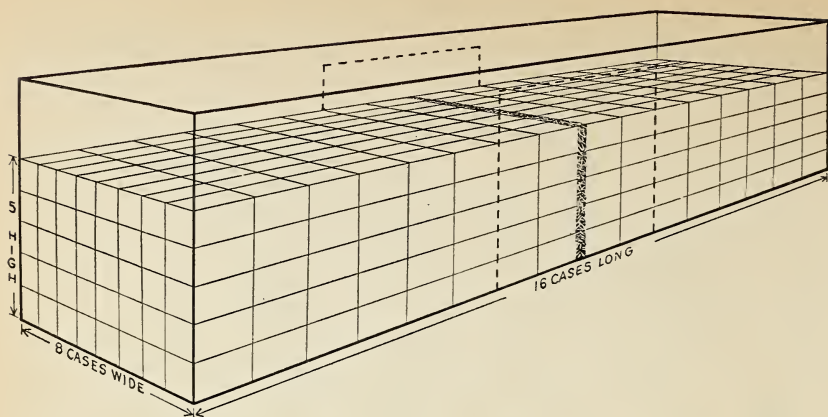

Figure 20.—Six hundred and forty fiber egg cases loaded properly.
c. Deciding on a method of loading.—When egg cases, all fiber or all wooden of the same dimensions, are to be stowed in a refrigerator car, they may be loaded as illustrated in figure 20. Although the practice is not